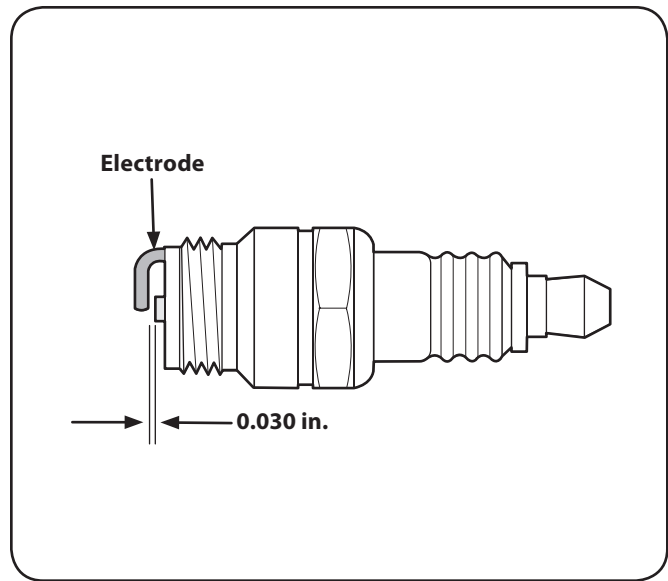

Figure 6-6
3. Measure the plug gap with a feeler gauge. Correct as necessary by bending side electrode. See Fig. 6-6. The gap should be set to 0.030 in.
4. Grasp new fuel filter from shouldered end and insert it completely to the shoulder into the tank outlet. See Fig. 6-6 inset.